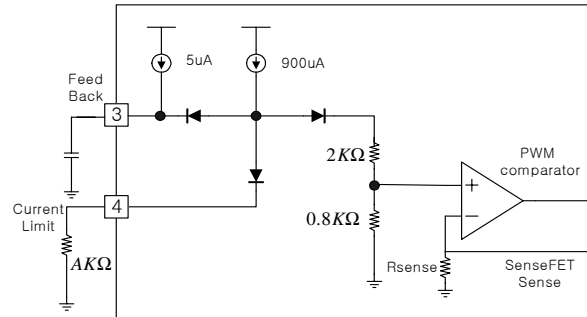

Figure 14. Peak current adjustment
8. Adjusting Current limit function: As shown in fig 14, a combined $2.8\text{K}\Omega$ internal resistance is connected into the non-inverting lead on the PWM comparator. A external resistance of Y on the current limit pin forms a parallel resistance with the $2.8\text{K}\Omega$ when the internal diodes are biased by the main current source of $900\mu\text{A}$.